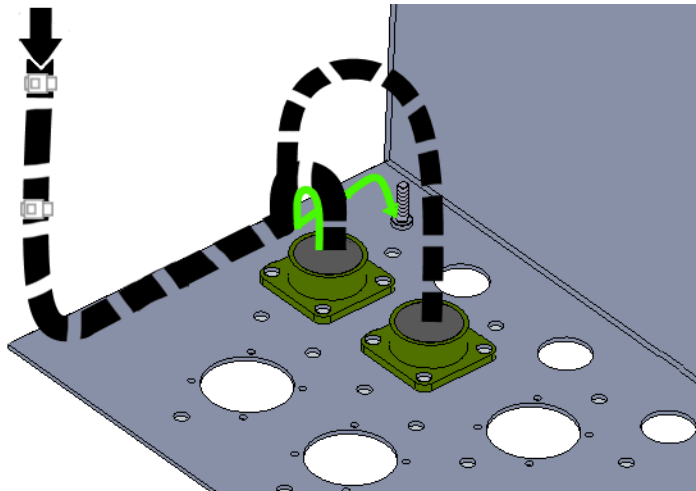

Figure 2 Form Drip Loop and Route Harness Wires
Step 1. Form a drip loop and route the harness wires to the left toward the 14-pin connector. See *Figure 2*.